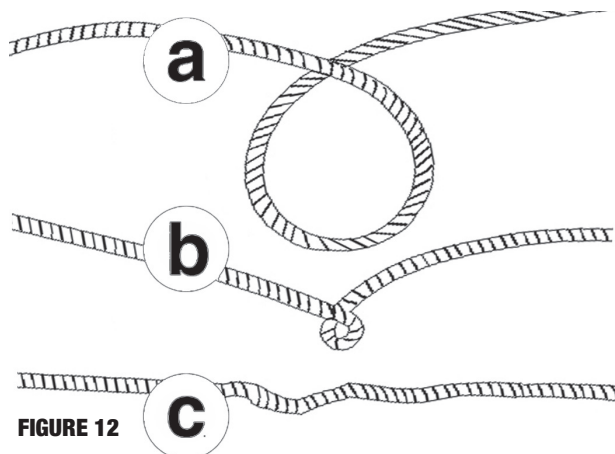

FIGURE 12
- 5. PREVENT KINKS IN WIRE ROPE BEFORE THEY OCCUR. (FIGURE 12)**
Attch wire rope to the drum using screw provided **FIGURE 12**.